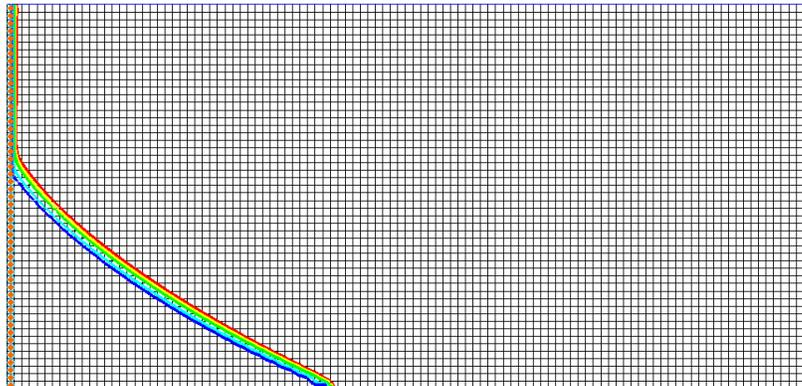

Figure 12 Time step 6 (after 25 minutes)
4. Select time step 6 in the time step window (Figure 12).